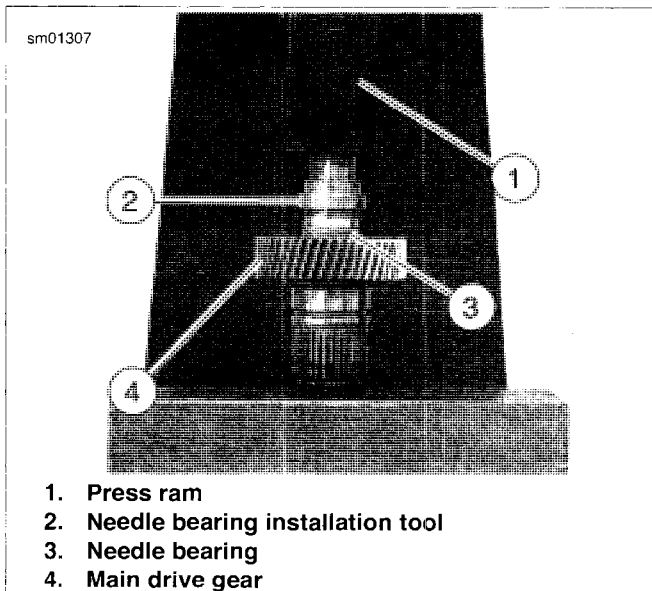
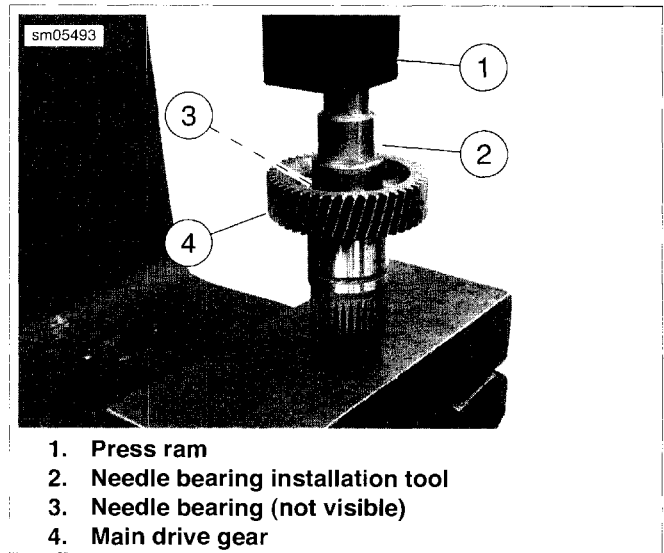

Figure 5-76. Pressing Inner Needle Bearing Assembly into Main Drive Gear: XL Models
Figure 5-77. Pressing Inner Needle Bearing Assembly into Main Drive Gear: XR Models
- See Figure 5-76 or Figure 5-77. Place main drive gear (4) on press bed with gear end facing up.
- Place needle bearing (3) squarely into end of drive gear with lettered side of bearing facing up. Always press on lettered side of bearing to install. Insert the appropriate installation tool (2) with end stamped "INNER" facing needle bearing.